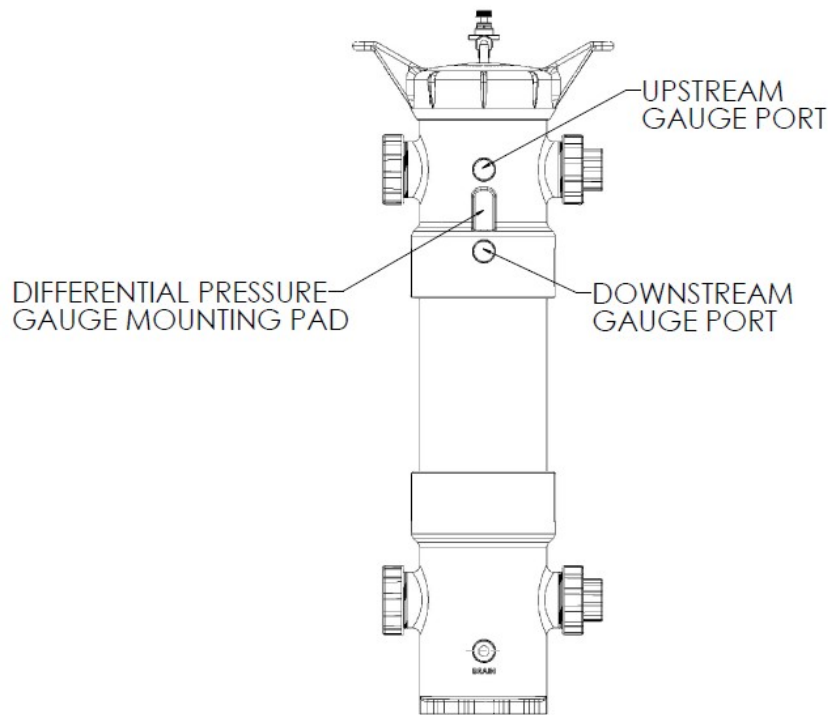

Fig. 2 DIFFERENTIAL PRESSURE GAUGE PORTS
1.8.4 Remove the threaded pipe plugs from the upper and lower differential pressure ports. (if vessel is provided with drilled and tapped differential pressure ports). (See fig. 2)
See Fig. 2 page 8 Differential Pressure Gauge Ports